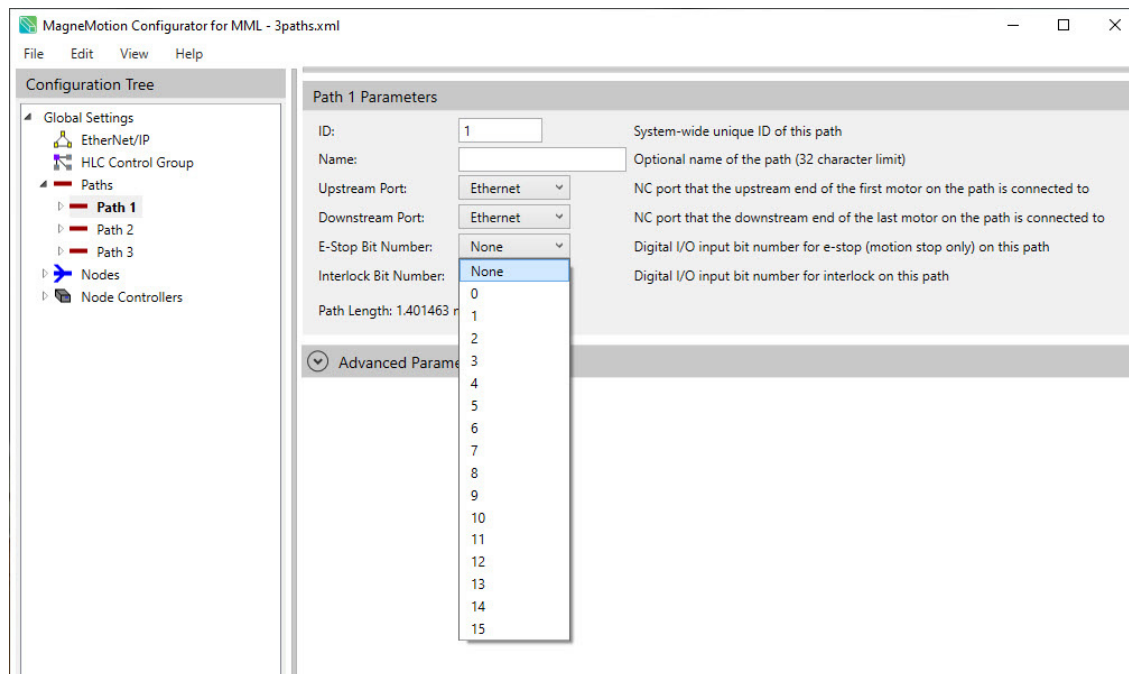

Figure 4-138: Adding an E-Stop to a Path
*The **Path Details** page for the selected path, see Figure 4-138, is displayed in the Configuration Settings Pane.*